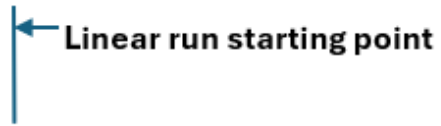

Figure 4
STEP 4: Mark the starting point for the linear run (see figure 4)